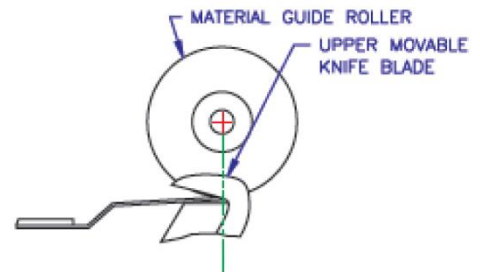

Fig. 2
- d) The material guide roller should be adjusted along the sewing plane so as to be centered at the right 1/3 (Fig. 2) of the cutting edge of the upper movable knife blade. This is accomplished by loosening the two 1/4-20 bolts (4) (Fig. 4) located in the slotted holes of the upper conveyor mounting bracket. After locating the material guide roller properly, tighten the two 1/4-20 bolts securely.